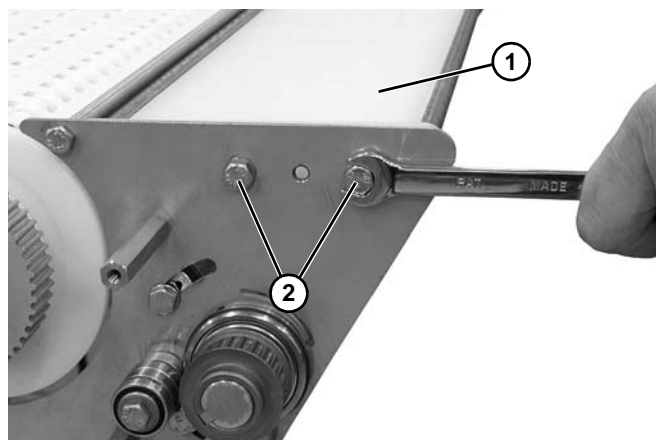

Figure 77
7. Install support bar assembly (**Figure 77, item 1**) with two hex head screws (**Figure 77, item 2**) on both sides of the power transfer.